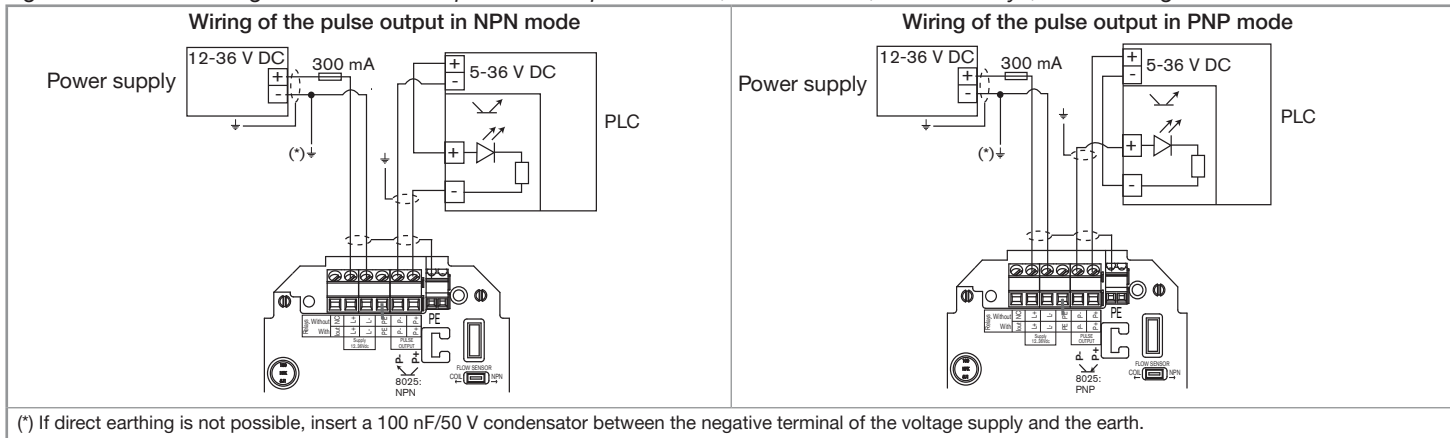

Fig. 27: Wiring, in NPN or PNP mode, of the pulse output of a compact version, 12...36 V DC, without relays, with cable glands
- Wire the pulse output according to Fig. 27 of chapter 8.6.3.